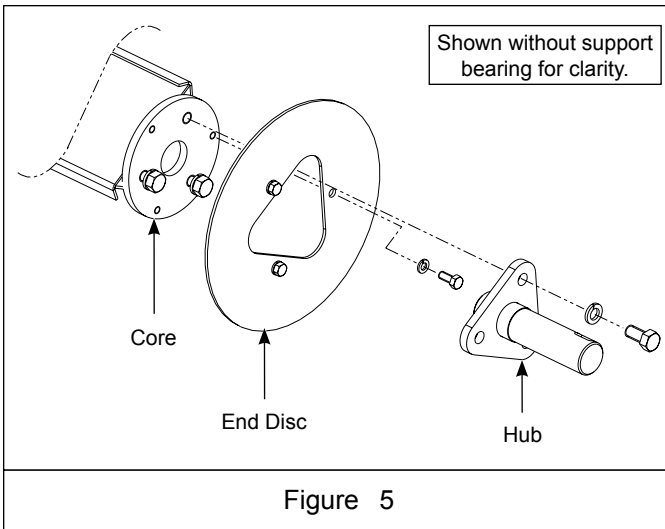

Figure 5
1. Remove (3) 1/2-13 x 1" capscrews, lock washers and hub from end of core. Retain hub and mounting hardware. See Figure 5.
2. Remove (3) or (4) 5/16-18 x 3/4" capscrews, lock washers and end disc (wafer retainer plate) from end of core. Retain end disc and mounting hardware. See Figure 5.
4. Install end disc on core with original hardware. See Figure 5.
5. Install hub on core with original hardware. See Figure 5.